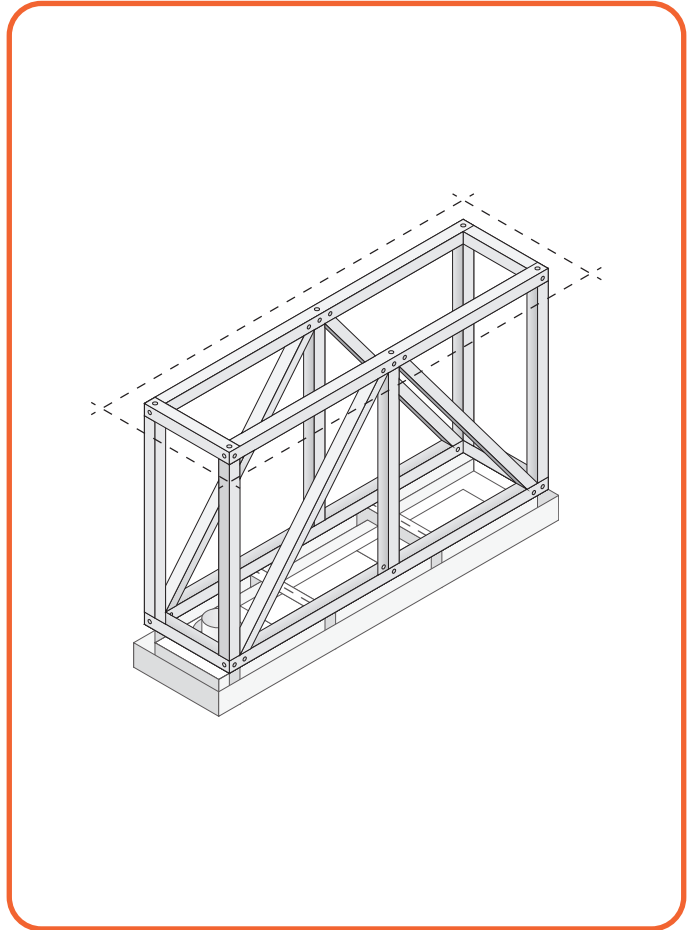

Figure 8.11 - Final result with additional crossbars
- Place crossbars between the profiles used for extra support and fixation of the structure. (Figure 8.11)